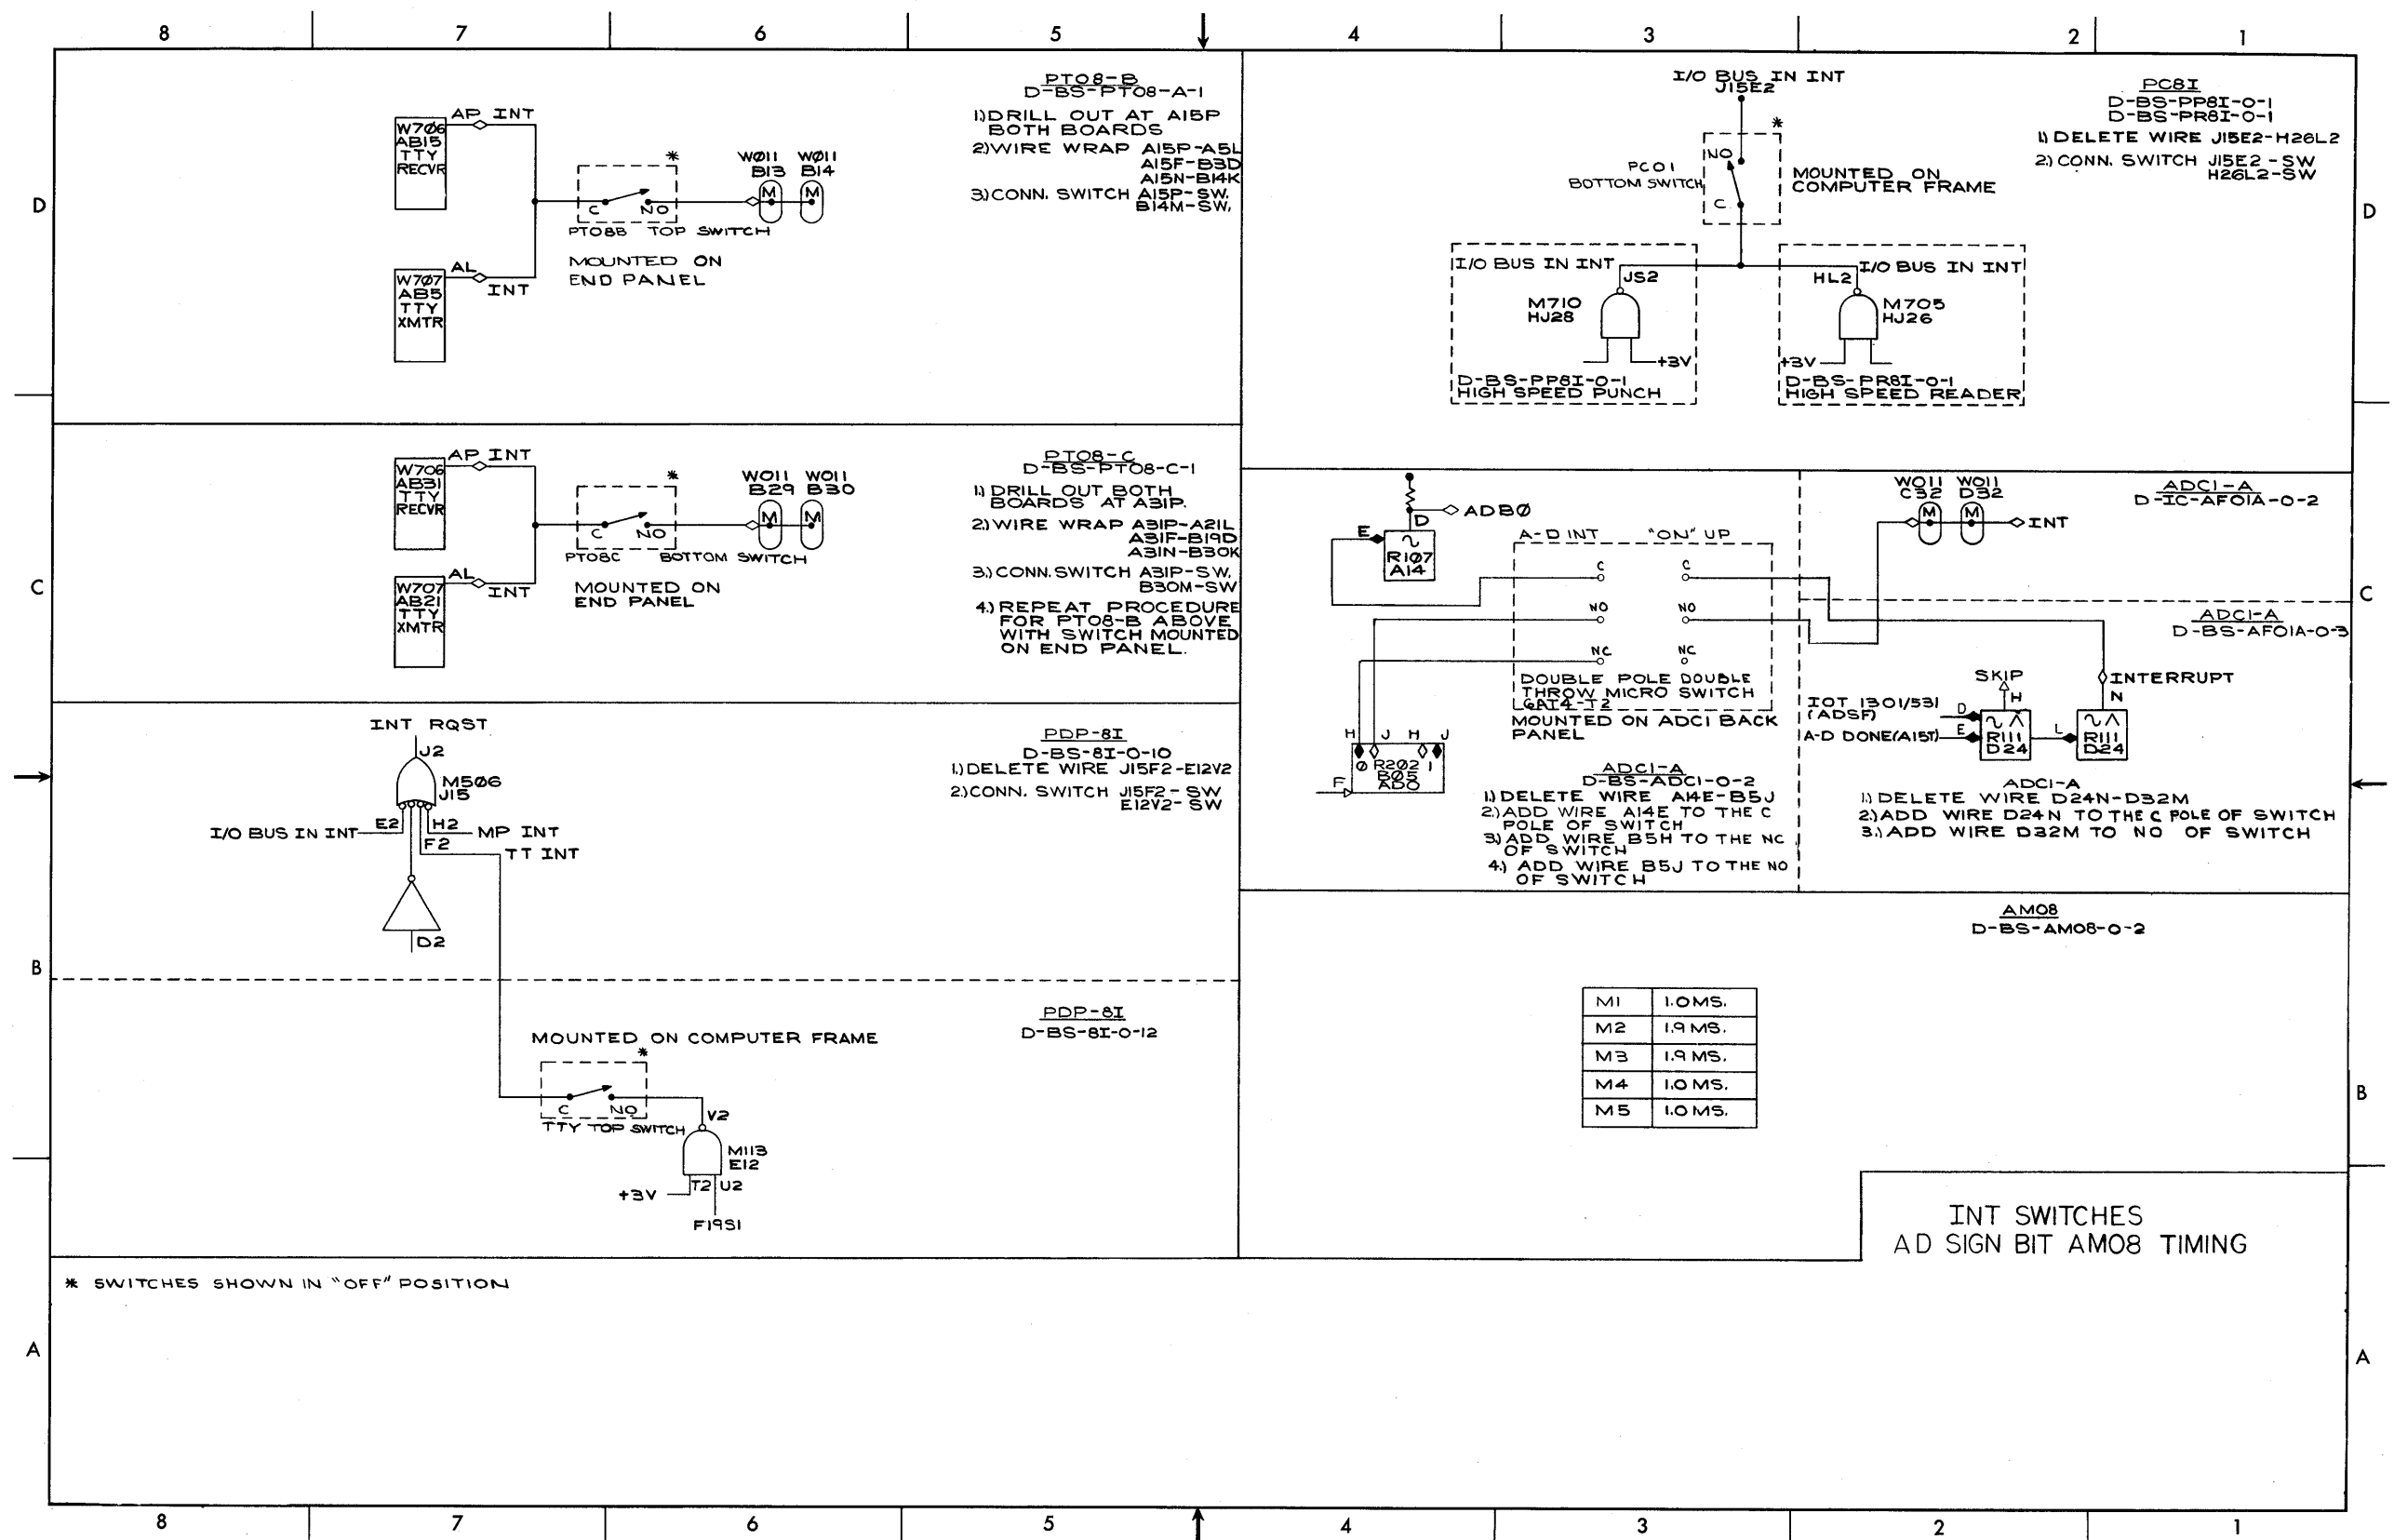

Figure 6-1 D-BS-AF06-A-3 AF06 Modification Block Schematic
- Figure 6-1 AF06 Modification Block Schematic (D-BS-AF06-A-3)